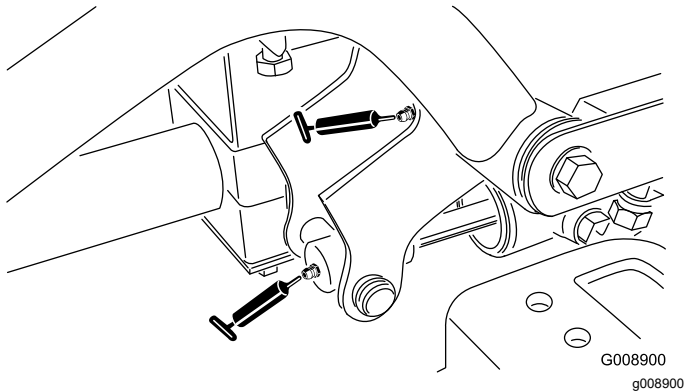

Figure 43
- Right front lift arm pivot and lift cylinder (2) (Figure 43)